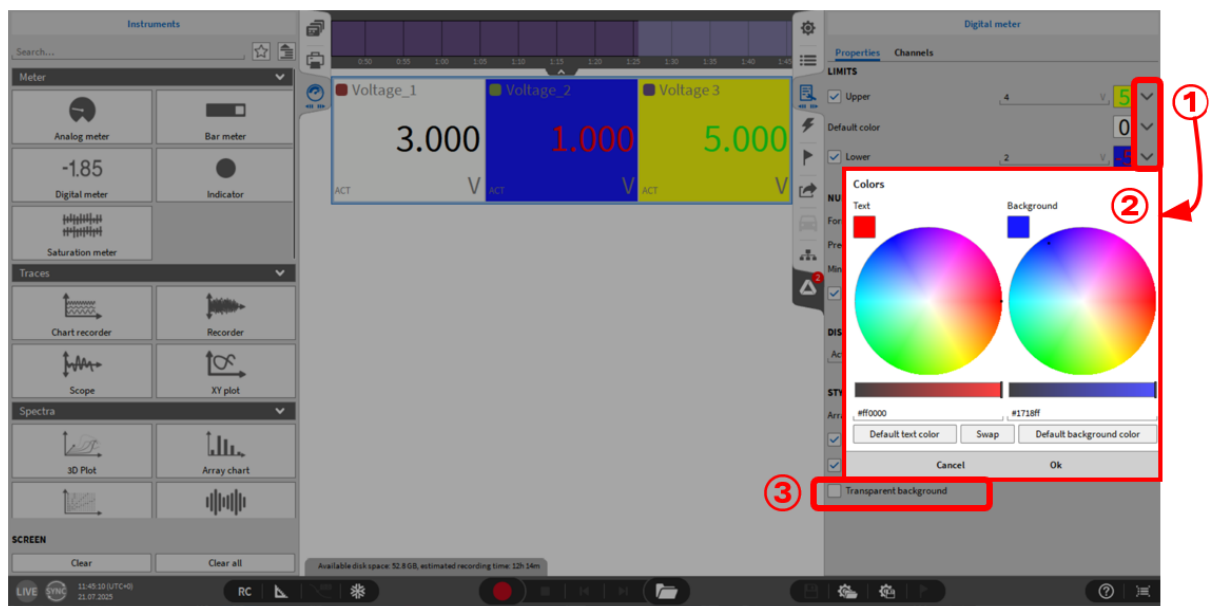

Fig. 8.12: Digital meter - Limits
- Limits: Allows users to color the Digital meters' text based on different limit values. This really helps in identifying signals which have hit a limit when the display is very "busy". This is illustrated in Fig. 8.12. It is possible to define colors for upper and lower limit as well as a default color between the upper and lower limit. First, it is necessary to define a value for the limits (except of the default setting). Afterwards it is possible to define a color for the text and the background by pressing the button ① shown in Fig. 8.12. When pressing one of the buttons in ① for the respective limit a new window appears (② in Fig. 8.12). Here it is possible to define the color for the text itself as well as the color for the background. With the buttons "Default text color" and "Default background color" it is possible to go back to the default settings, with the button "Swap" it is possible to switch the setting of the text and the background. By pressing the "Ok" button the settings will be stored for the selected digital meter.
For the background it is necessary to deactivate the "Transparent Background" option (③ in Fig. 8.12).